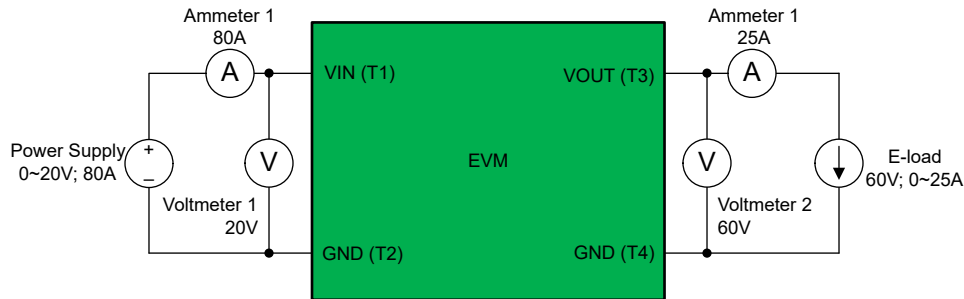

Figure 4-1. EVM Test Setup
Figure 4-1 shows the required test setup to evaluate the EVM.
2. Prepare the setup following Figure 4-1.